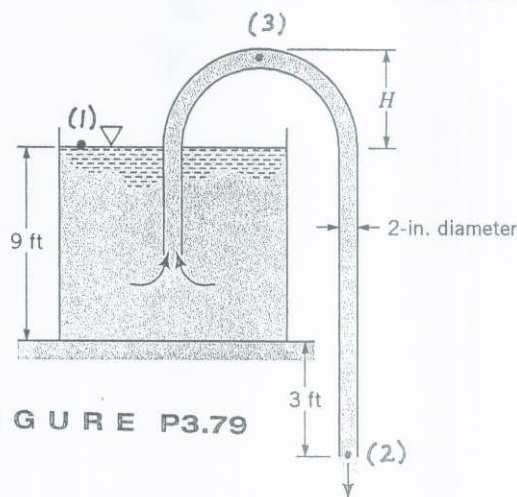

FIGURE P3.79
3.79 Water is siphoned from a large tank and discharges into the atmosphere through a 2-in.-diameter tube as shown in Fig. P3.79. The end of the tube is 3 ft below the tank bottom, and viscous effects are negligible. (a) Determine the volume flowrate from the tank. (b) Determine the maximum height,  $H$ , over which the water can be siphoned without cavitation occurring. Atmospheric pressure is 14.7 psia, and the water vapor pressure is 0.26 psia.